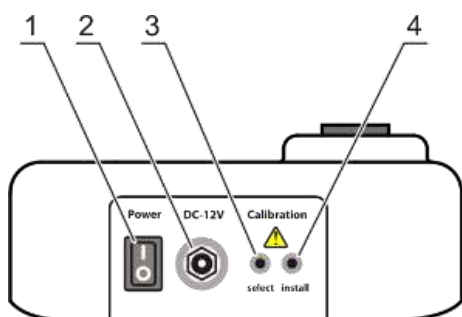

Figure 1. Rear panel of DEN-1/DEN-1B unit
2.4. Connect the external power supply to electric circuit. Switch on the unit using the **Power** switch (fig. 1/1) on the rear panel.
2.5. Press the **Select** button (fig. 1/3) on the rear of the unit.
2.6.1. Empty socket. Display shows -.- indication. Press **Install** button (fig. 1/4) to save empty socket value. Display shows next required calibration value.